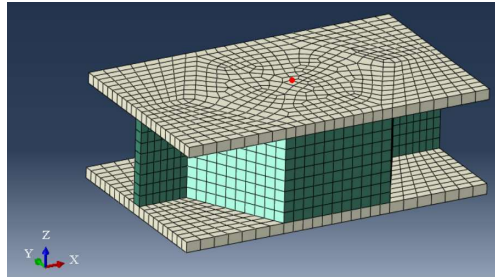

Fig.4 Micro-structure (M00)
- (10) In order to control the rigid body displacement of the RVE, a point on the RVE must be constrained. Here, select M00 point on the panel, as shown in Fig.4.